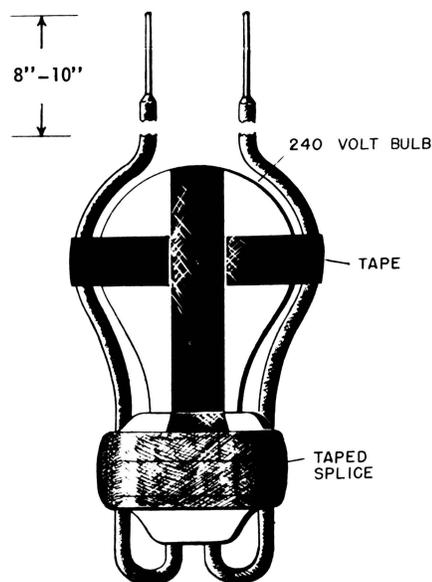

Fig. 2
6. Bend wires around the light bulb as shown. Wrap at least two layers of tape around widest part of bulb and over the end, as in the picture. (Figure 2)